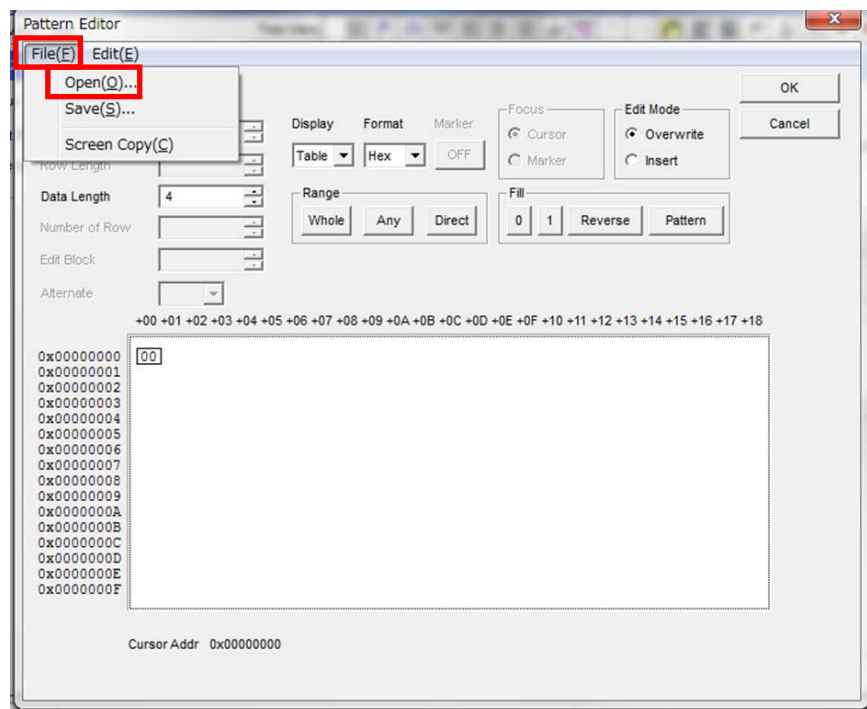

Figure F.2-3 Pattern Editor File Menu
- For other than PRBS, select **Data** and click **Edit**.Load a pattern file from the File menu on the Pattern Editor dialog box in Figure F.2-3.
Load a pattern file from the File menu on the Pattern Editor dialog box in Figure F.2-3.